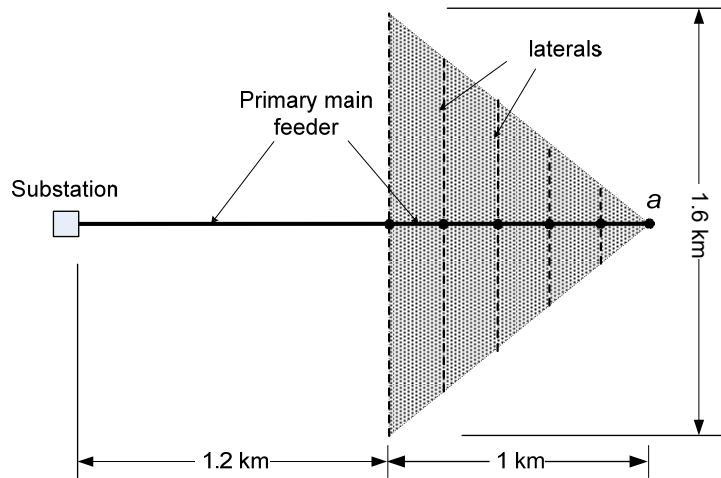

Figure 2.1
- (b) Consider a triangular shaped service area as shown in Figure 2.1. The area has a uniform load density of 1600 kVA/km² and 0.9 lagging power factor. A substation supplies 3-phase power with nominal voltage 11.00 kV (V_{L-L}) 50 Hz to this area. The primary distribution system consists of an ACSR 37/2.59 main feeder and ten ACSR 7/4.09 laterals. Both the main and laterals are constructed such that the geometric mean distance for the three-phase wire is 0.8m. Assume that the operating temperature of the main and laterals is 40°C and the laterals are uniformly loaded.